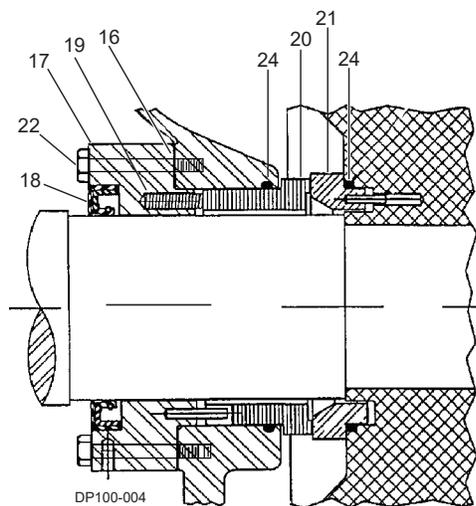

Figure 29
4. Pull the seal out with a hook tool. Insert a new water lip seal with the lip facing in. (See item 18 in Figure 29 on page 15.)
1. See Figure 29. Install the gland plate lip seal (18) into the rear of the gland plate (17).
2. Apply a small amount of sealant to one end of each of the six springs (19) and place them in the gland spring holes (17).
3. Install the gasket (16) to the sealing face of the gland plate (17).
4. Attach the gland plate (17) to the mill body using the existing capscrews.
5. Install one O-ring (24) into the groove in the mill body.
7. Lubricate the O-ring (24) and small O.D. of the seal (20) with a compatible lubricant. Install the seal into the mill, aligning the notches on the seal with the pins in the gland plate.